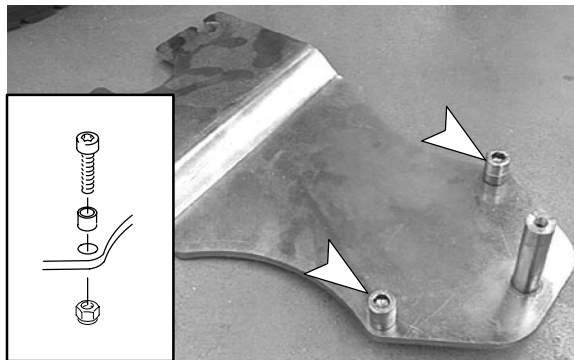

Fig. 23
11. Mount the squeegee stop hardware to the new swivel plate as shown. Hardware supplied with Kit. 5/16" hex wrench required (Figure 23).